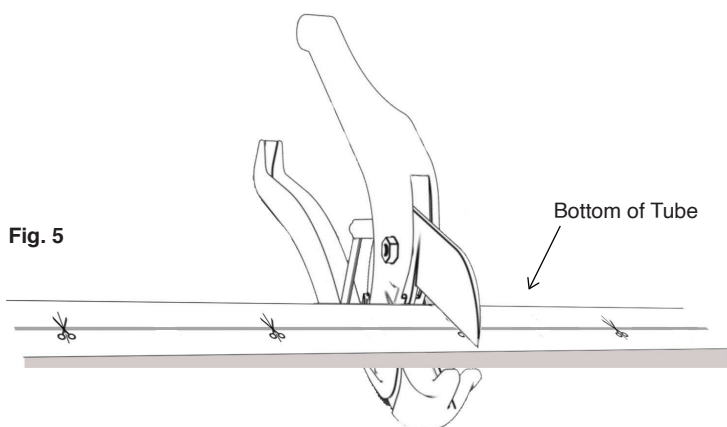

Fig. 6
8. Push the end cap over the flexible border tube, forcing any air bubbles out (Fig. 6)